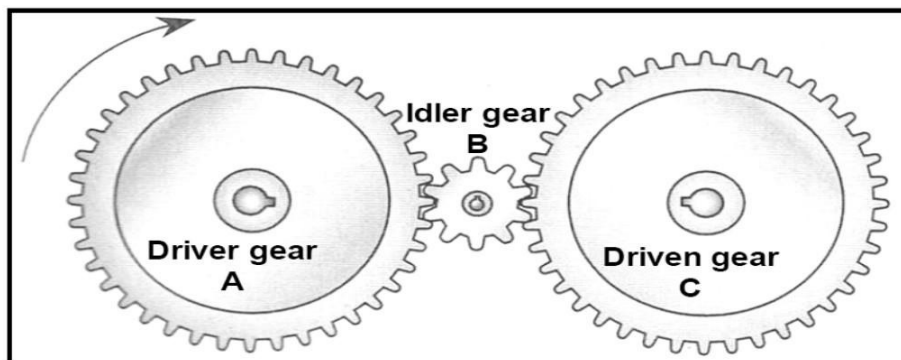

FIGURE 4.9
- 4.9 FIGURE 4.9 below shows three gears meshing. What is the purpose of idler gear **B**?